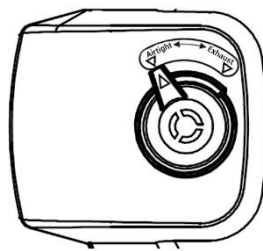

Figure 15
4. Adjust the Pressure Limiting Valve (3) to the "Airtight" position, and ensure that the Float Valve (4) sinks.
5. When adjusting the Pressure Limiting Valve (3) to either the "Airtight" or the "Exhaust" positions, line up the marking on the Pressure Limiting Valve (3) with the arrow on the Handle (1) as shown in Figure 15.